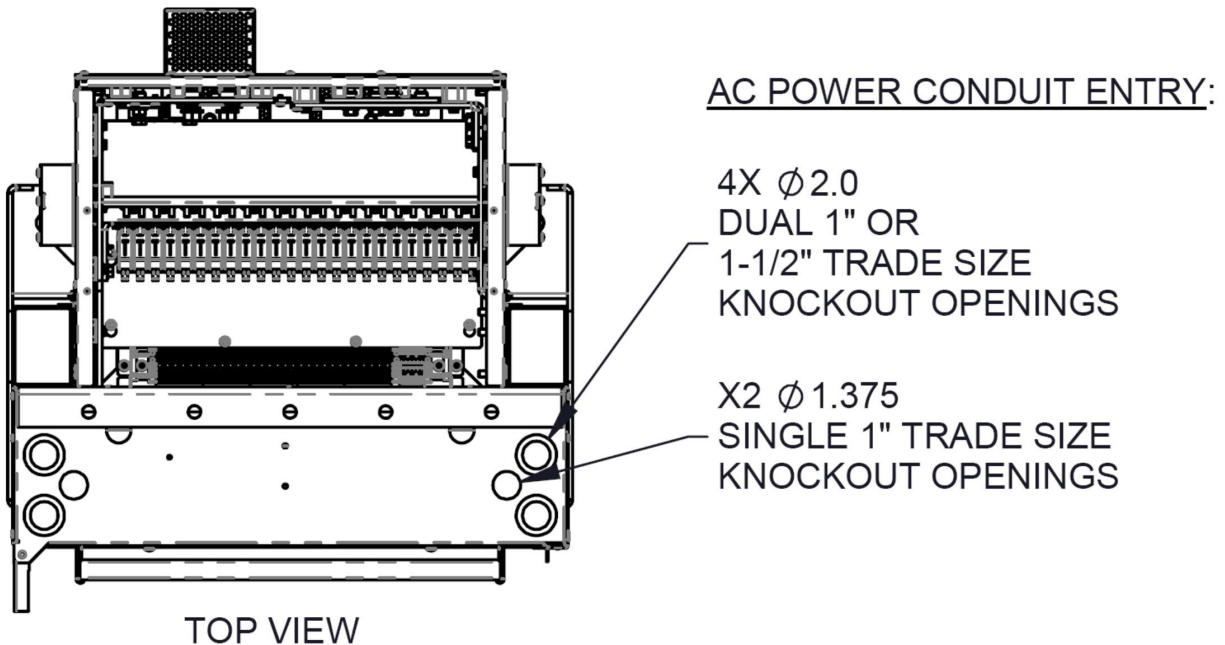

Figure 33: Top chassis conduit entry plate
2. At the rear of the shelf, remove the screw and flip the AC wire way cover down (two places) to access the AC input terminal blocks: each terminal pair corresponds to either two rectifier modules or a single rectifier module as shown in Figure 33.